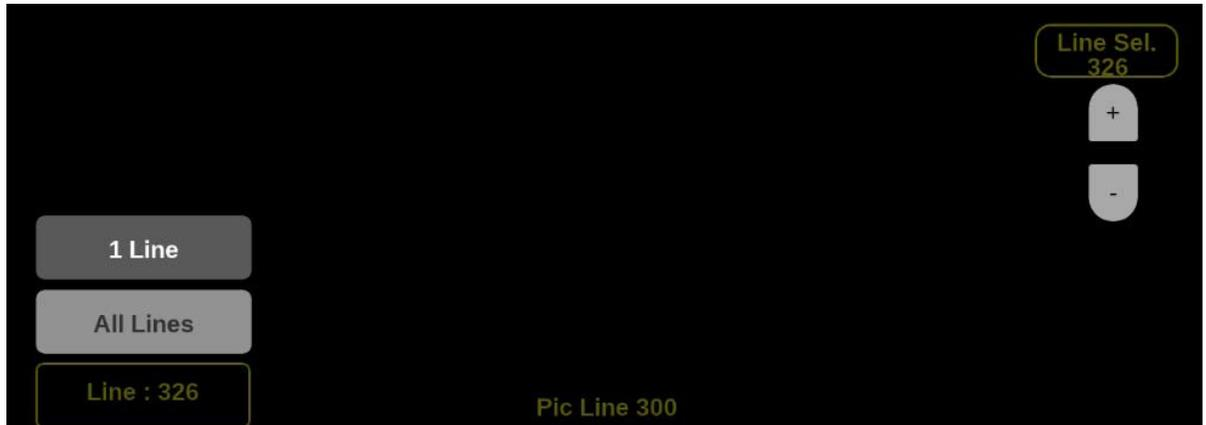

Figure 198: Stop Display on-screen tools – Line Select
If **1 Line** is selected then the display will only show results for the selected line in the picture. The line can be selected using the on-screen tools. (See Line Select function.) Or the line can be selected directly on the Picture. (See Figure 198.)
1. Select the **Lines** button at the bottom of the application. (See Figure 198.)